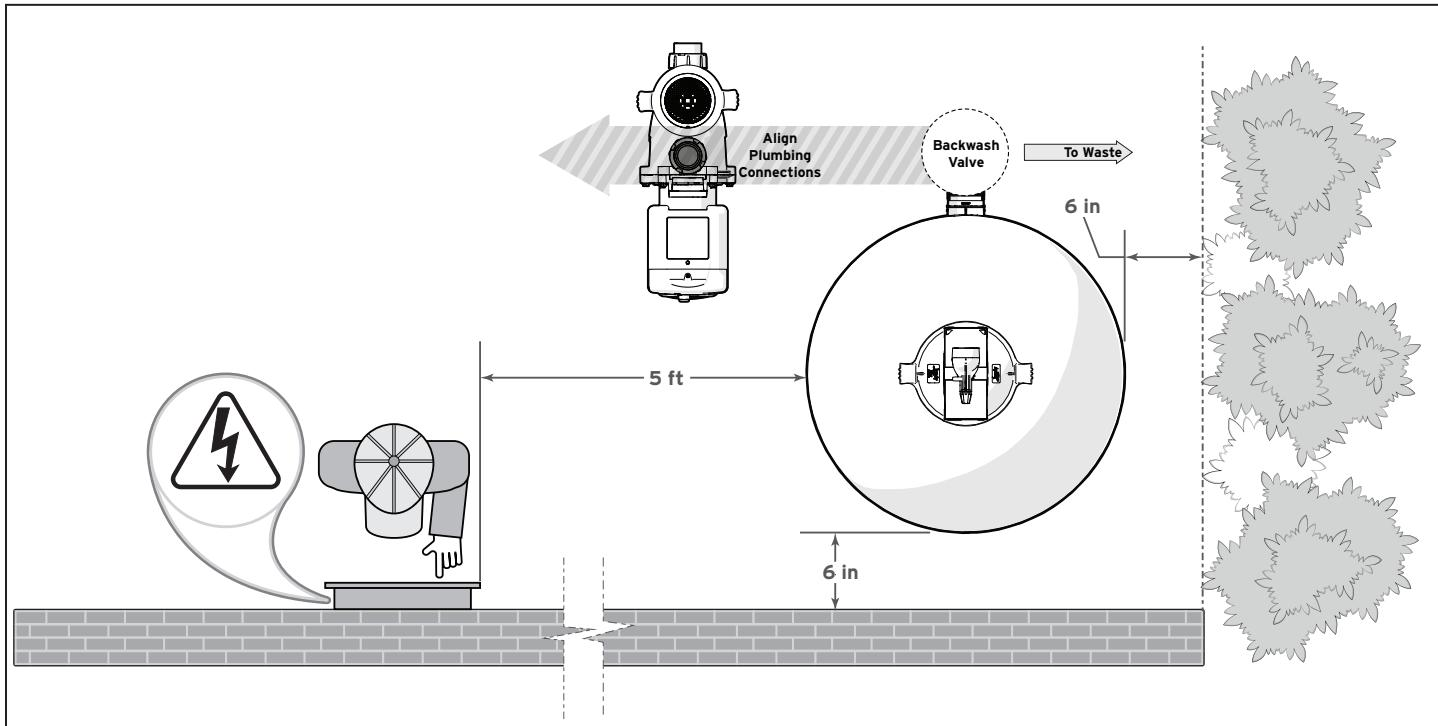

Figure 3. Filter Location Requirements
1. Place the filter on the concrete pad, lined up with the inlet/outlet pipes. See Figure 3.